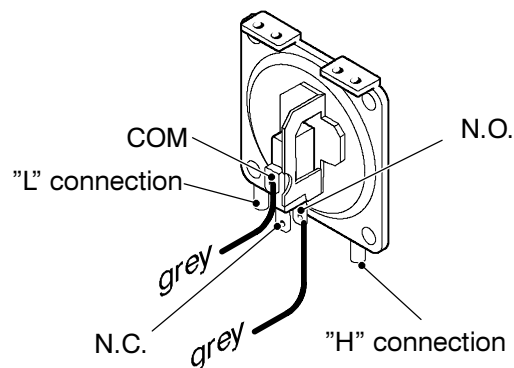

Fig. 75
- 2 Disconnect the wires and check the electrical resistance between the connections of the Air pressure switch. Refer to the Fig. 75 in accordance with the type of air pressure switch used.